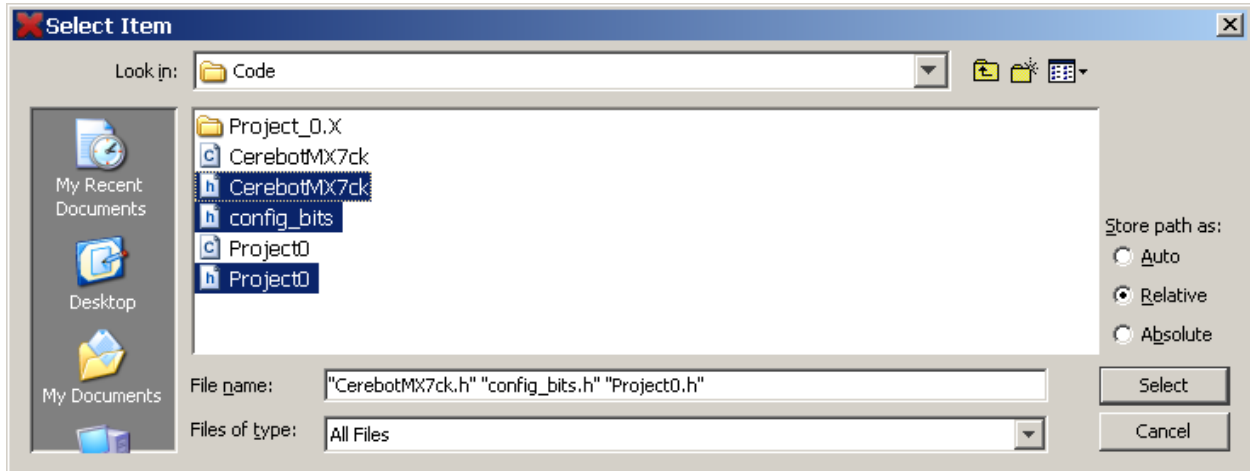

Figure 12. Selection of header files for Project 0
- I. In the Project box, right click on the Headers Files folder and select the option to “Add existing item...”. Select the three files with the “.h” extension shown in Figure 12 then click on the **Select** button. Using the *Relative* store path option allows projects to be easily move from one development PC to another where the directory structure may be different.